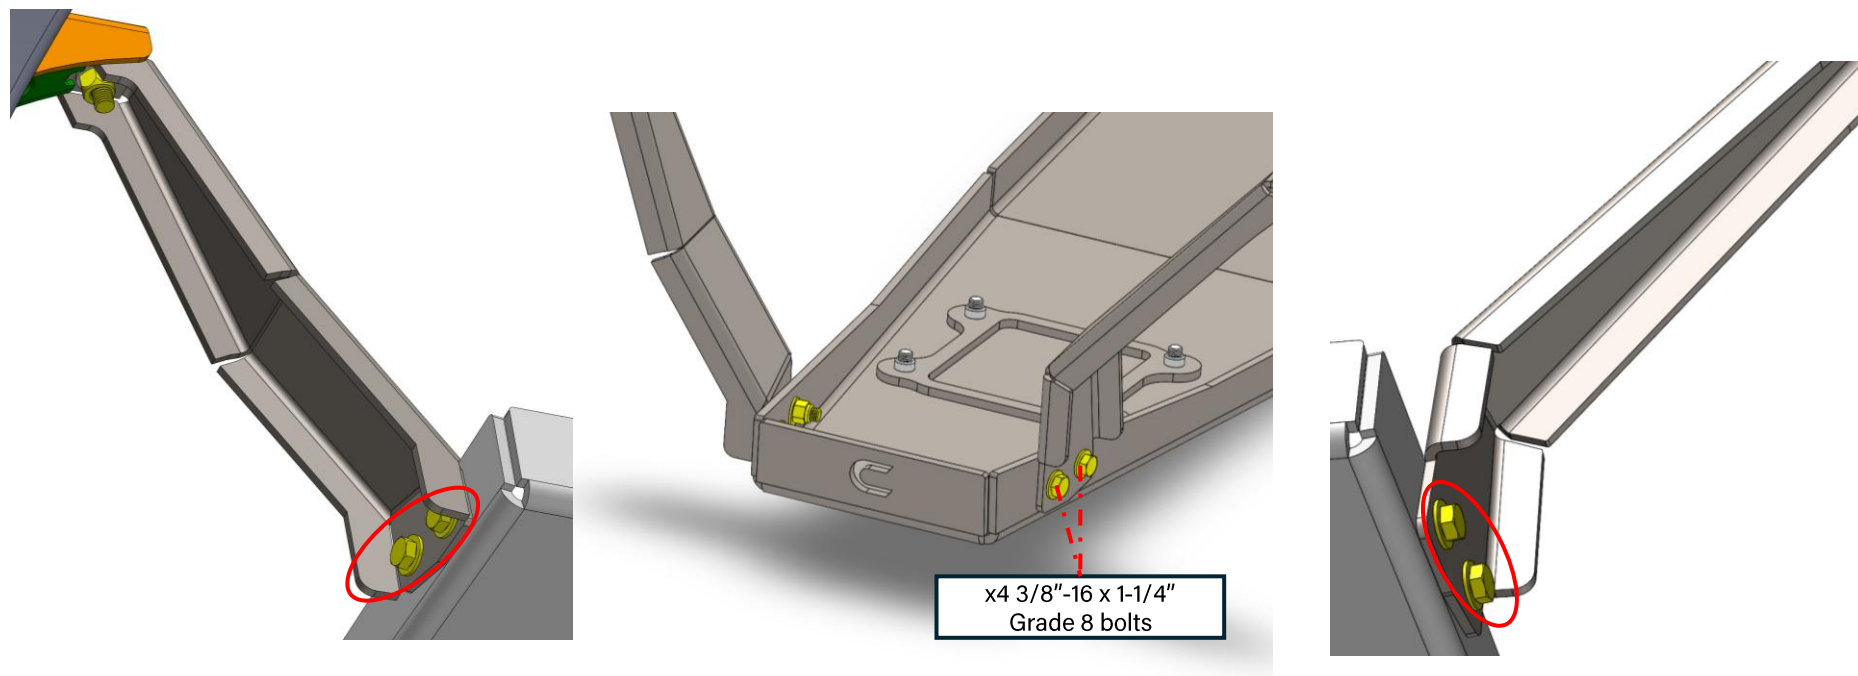

Figure 10: New skid plate installed at OEM 2.0L motor mount locations and skid plate connections
9. Move to the front of the skid plate to install the remaining hardware. Install the x4 longer 3/8"-16 bolts through the holes on the engine skid plate brackets and feed them through the skid plate. **Use x2 washers for each bolt** as seen below in Figure 10. **Loosely** fasten the bolts on the inside of the skid plate with the provided lock nuts.